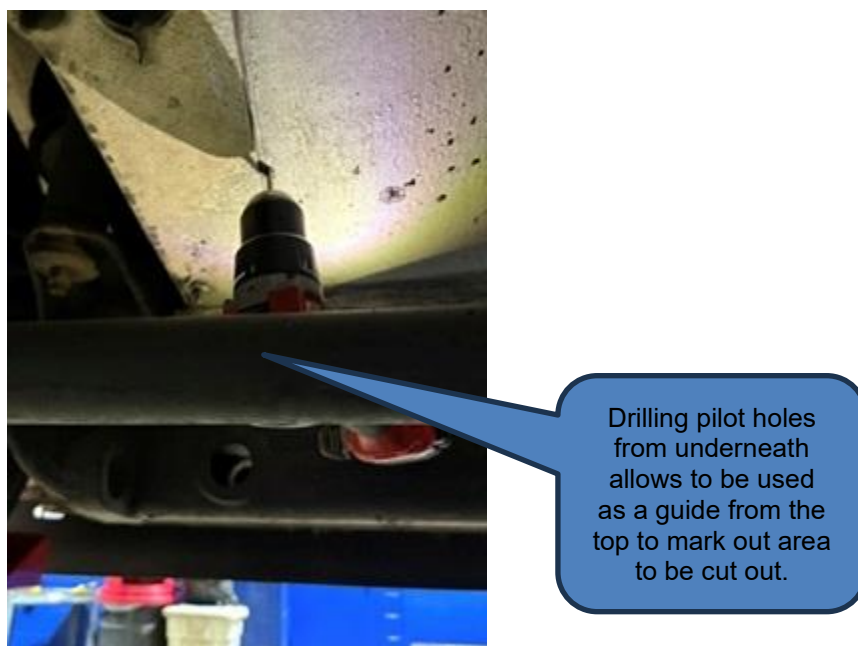

FIGURE 10: PILOT HOLES DRILLED FROM UNDERNEATH
18. If the plywood section needs to be replaced, from underneath the bus, drill pilot holes in all 4 corners to edge of structure plate to allow for plywood. Reference edge (from the inside) by going inward $\frac{3}{4}$ " to allow for the plywood cutout to be on top of the structure. You want a structure edge so that new piece of plywood can be fastened to the structure. For steps 18 & 19, See Figure 10 & 11.